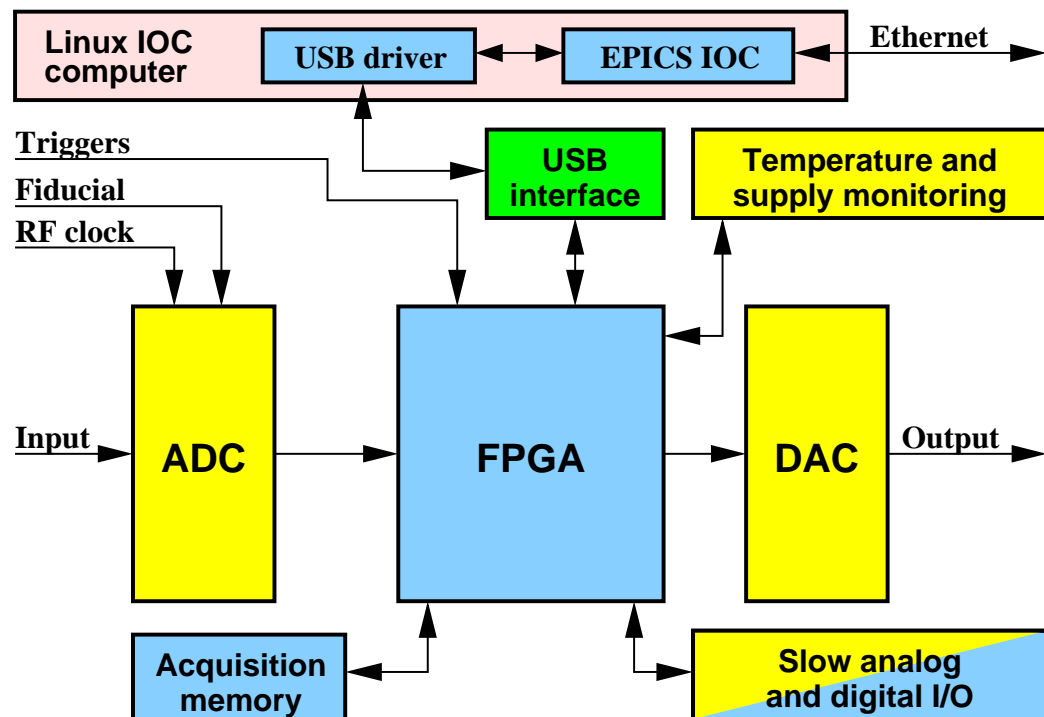

Figure 1: iGp-120F block diagram
A block diagram of the iGp-120F system is shown in Figure 1. The main signal processing chain consists of a high-speed analog-to-digital converter (ADC), a field programmable gate array (FPGA), and a high-speed DAC and is driven by the radio frequency (RF) clock. In addition to performing real-time control computations, the FPGA interfaces to a number of on-board devices, such as high-speed data acquisition memory (static random access memory (SRAM)), low-speed analog and digital input/output (I/O), as well as temperature and supply voltage monitors. In turn, the FPGA uses an internal universal serial bus (USB) connection to communicate to an embedded input-output controller (IOC) computer housed in the same chassis. The IOC runs the Linux operating system and is connected to the overall control system via the Ethernet.